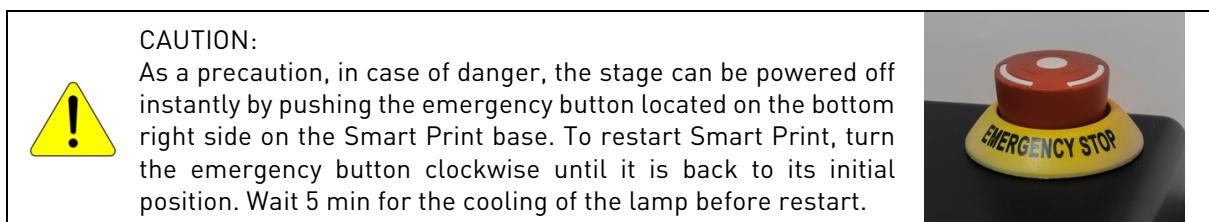

Figure 10 – Front (left) and back (right) panel of the XY stage's controller
- The stage must be connected to the controller back panel (Figure 10 right) on the axis 1 and axis 2 ports via cables axis 1 and axis 2.
- The controller must be connected to a computer with the appropriate USB cable via its front panel (Figure 10 left).
- The controller must be connected from the power inlet on the front panel (Figure 10 left) to the power supply via its main adapter.